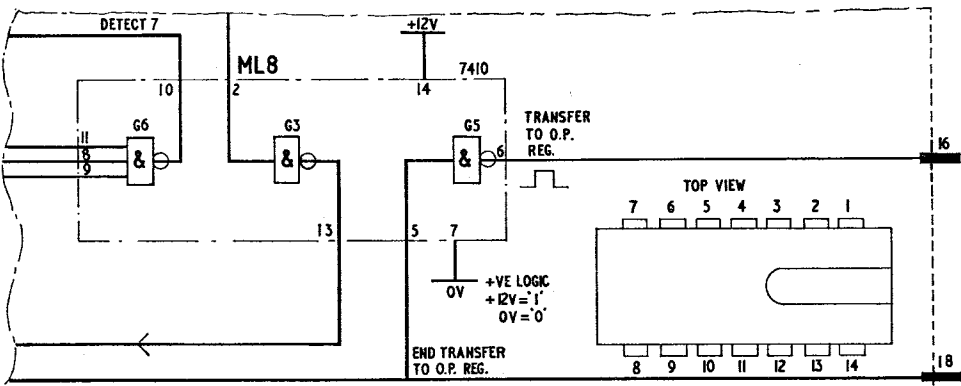

Fig 13 Logic diagram
21. **Logic diagrams.** The use of logic symbols permits complicated switching or computer circuits to be drawn without the use of detailed symbols for individual components. In recent years the widespread use of digital computers has led to the development of integrated circuit 'logic packages' or 'modules' which are produced in several forms for direct connection to printed circuits. The logic circuit shown in figure 13 uses fourteen lead dual-in-line packages and a key on the diagram shows the pin location. Faults can only be diagnosed to 'module' level and are repaired by replacement of the defective package.